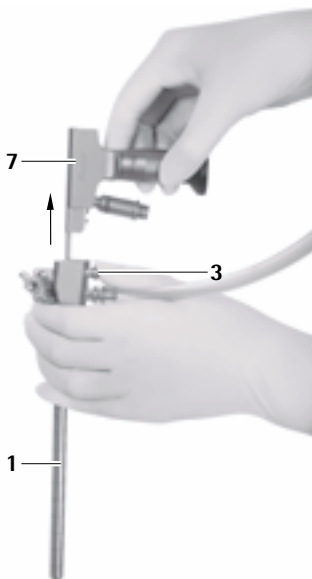

Fig. 11
- Press release button **3** and remove endoscope **5** from the MINOP inVent trocar **1**, see Fig. 11.